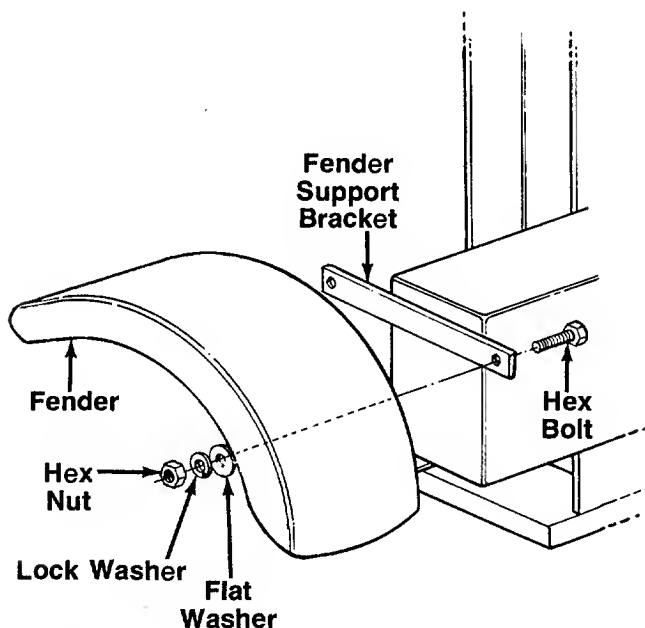

FIGURE 8.
2. Place the fenders in position against the fender support brackets. Insert hex bolts through holes in support brackets and fenders. Secure with flat washers, lock washers and hex nuts. See figure 8. Tighten securely.